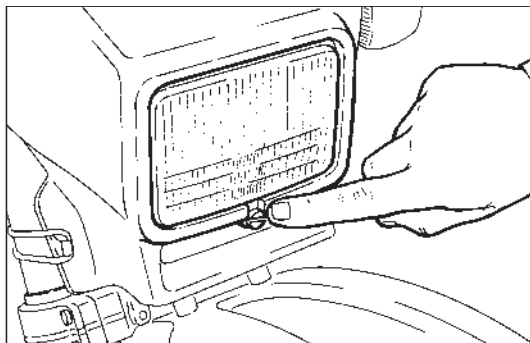

Fig. 73
- ♦ Act on the apposite screw (Fig. 73) with a screw driver.